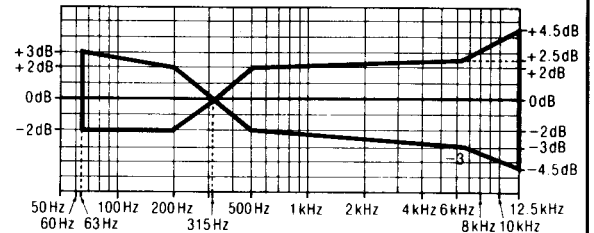

Fig. 11
5. Make sure that the measured values are within the range specified in the frequency response chart. (Shown in fig. 11).